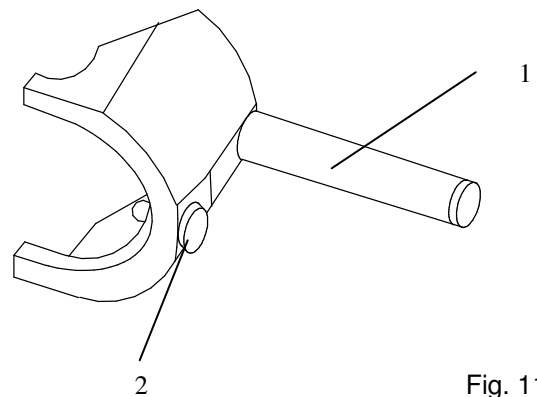

Fig. 11
- If the chuck fork is used for inserting a chuck into its respective buffer tray, the chuck fork (fig. 11) must be adapted for the Polyethylene chucks.
When using Polyethylene chucks unscrew the so-called grip finger (fig. 11.2) from the small handle of the chuck fork (fig. 11). Then screw it again into the support of the chuck fork.